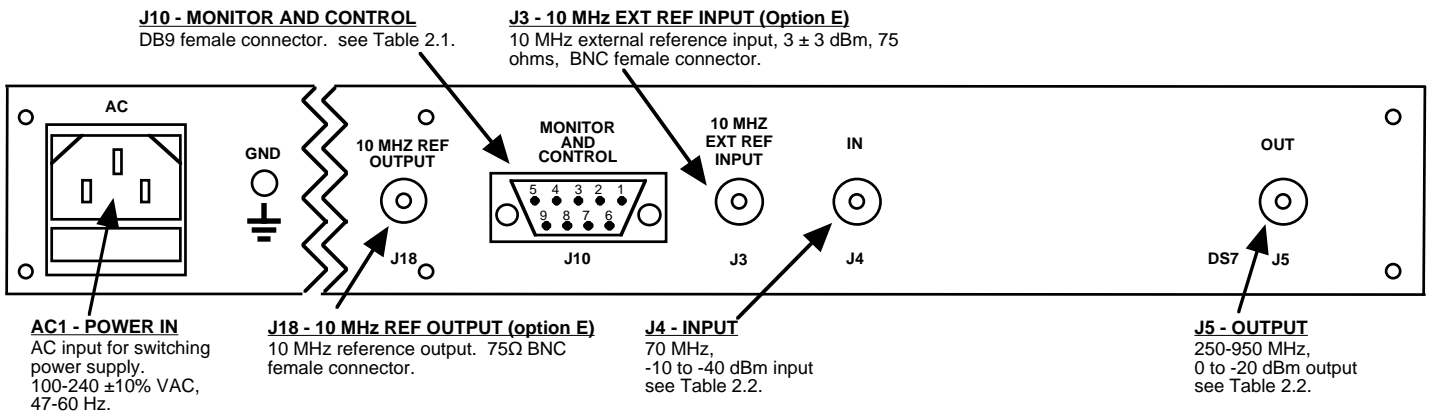

FIGURE 2.1 2083-1205 Rear Panel I/O's
Figure 2.1 shows the input and output connectors on the rear panel.
1. Connect a -10 dBm to -30 dBm signal to IN, J4 (Figure 2.1)